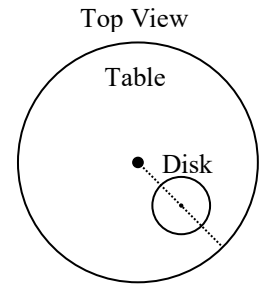

Figure 4.3
2. Set the photogate timer to pendulum mode and arrange the photogate so that the table's trigger (see Fig. 4.3) will pass through the photogate when the table rotates.